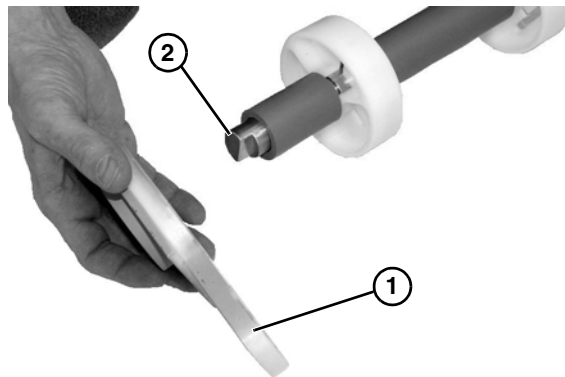

Figure 48
4. Slide off idler head plate (**Figure 48, item 1**) from shaft (**Figure 48, item 2**).